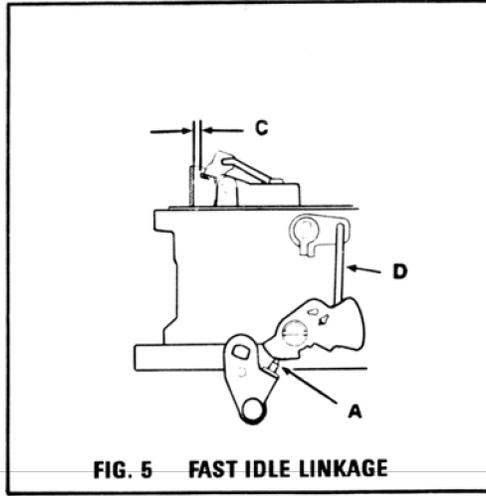

FIG. 5 FAST IDLE LINKAGE
## FAST IDLE LINKAGE (FIG. 5)
**VIII. FAST IDLE LINKAGE ADJUSTMENT.** (See figures 5 and 6.)
a. Hold choke valve closed and fast idle cam against stop on carburetor housing. The clearance between the two levers on end of choke shaft should be as listed in Adjustment Data Table. (See figure 5.) To adjust, bend fast idle rod as shown.
**X. UNLOADER ADJUSTMENT.** (See figure 5.)
Open primary throttle valves wide and check clearance between upper edge of choke valve and inner wall of air horn. This distance should be as listed in Adjustment Data Table. To adjust, bend the unloader lip, which can be seen in figure 5.